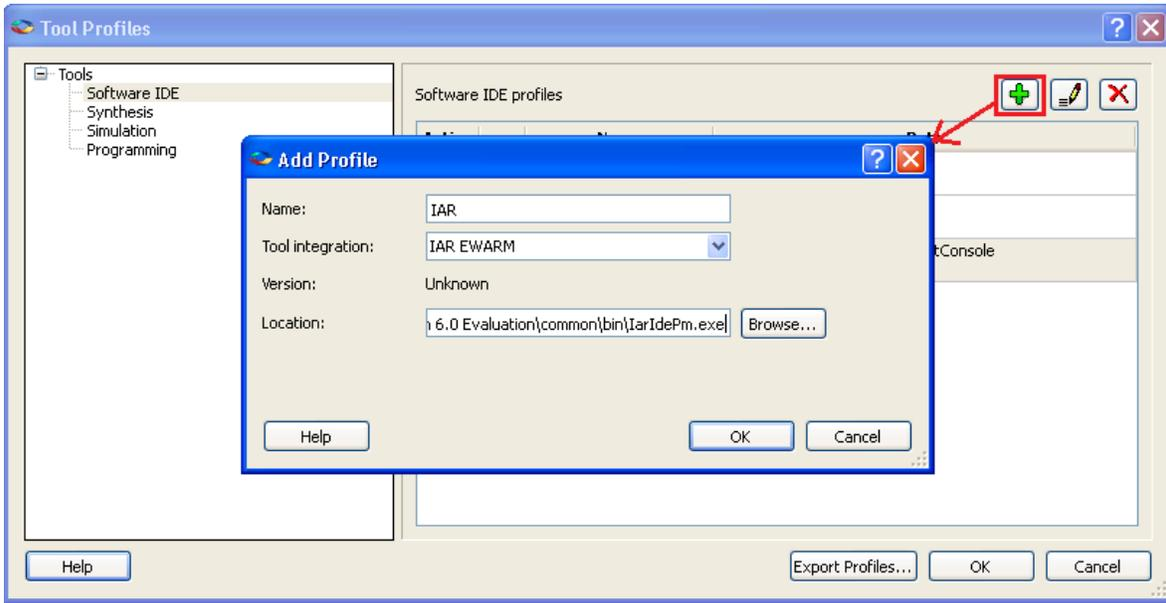

Figure 3 · Selecting IAR as Software IDE
3. Click **Edit Tool Profiles** and add IAR by clicking **Software IDE**, as shown in Figure 3 . .